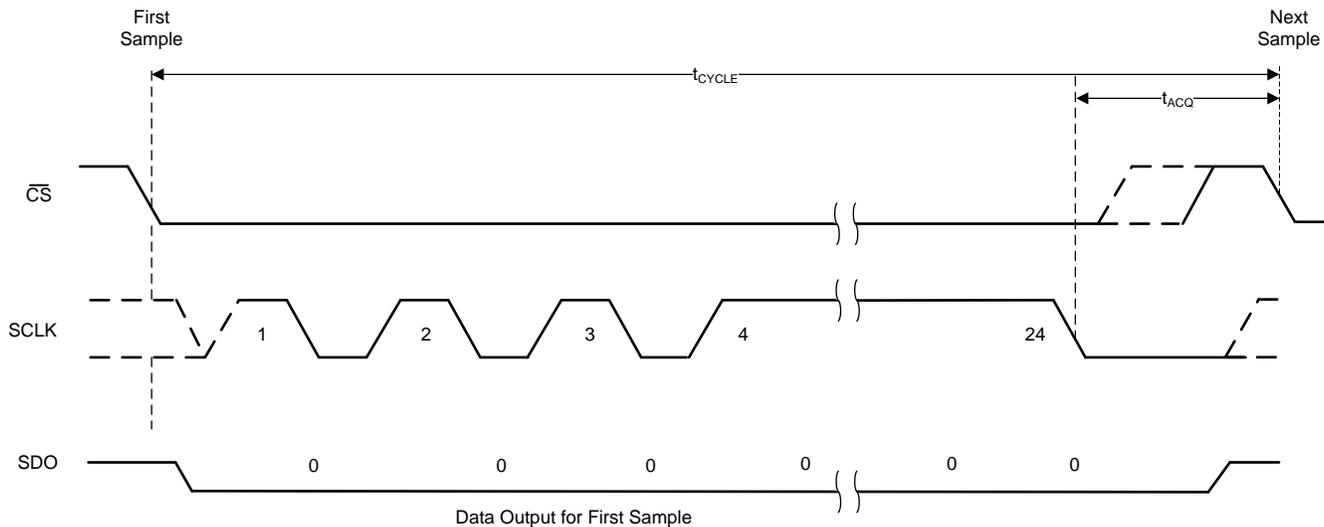
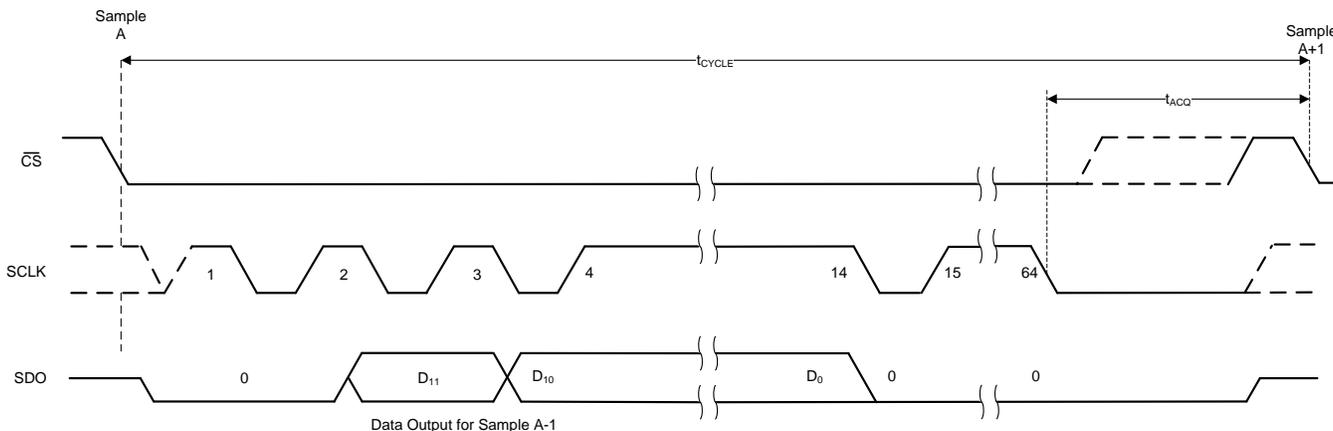

Figure 38. Timing for Offset Calibration on Power-Up
Figure 39. Timing for Offset Calibration During Normal Operation
The host controller must provide a serial transfer frame as described in Figure 38 or in Figure 39 to enter the OFFCAL state.
If the host controller starts the offset calibration process but then pulls the  $\overline{CS}$  pin high before providing 24 SCLKs, then the offset calibration process is aborted and the device enters the ACQ state. Figure 38 and Table 3 provide the timing for offset calibration on power-up.
(1) In addition to the timing specifications of Figure 38 and Table 3, the timing specifications described in Figure 2 and the Timing Requirements table are also applicable for offset calibration on power-up.
If the host controller provides more than 15 SCLKs but pulls the  $\overline{CS}$  high before providing 64 SCLKs, then the offset calibration process is aborted and the device enters the ACQ state. Figure 39 and Table 4 provide the timing for offset calibration during normal operation.
(1) In addition to the timing specifications of Figure 39 and Table 4, the timing specifications described in Figure 2 and the Timing Requirements table are also applicable for offset calibration during normal operation.